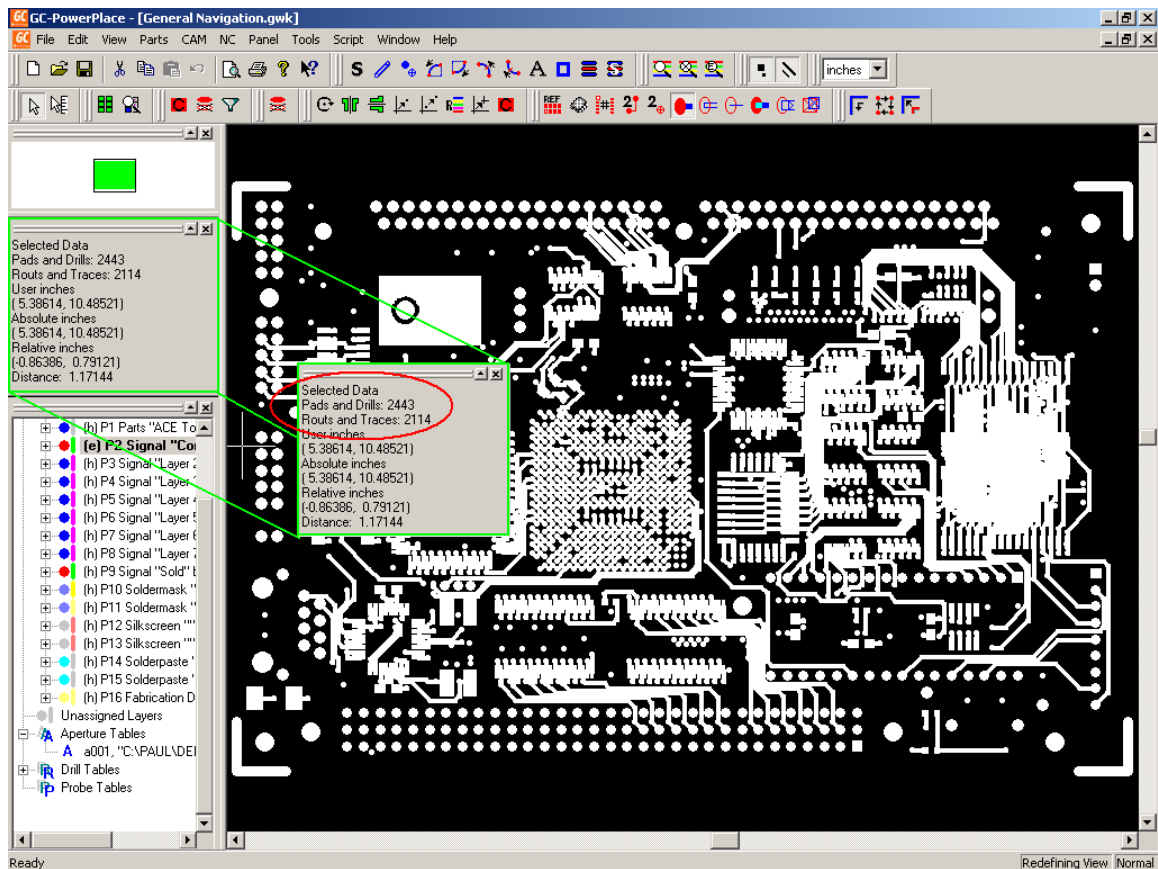

Figure 6: Co-ordinate summary
1. Choose **Edit > Select All**. The data should turn White indicating that the data is selected. Note also that the Co-ordinate Summary Window indicates the number of Pads and Drills and Routs and Traces selected (see Figure 6). This is always a useful place to check to ensure that data is not unintentionally selected.